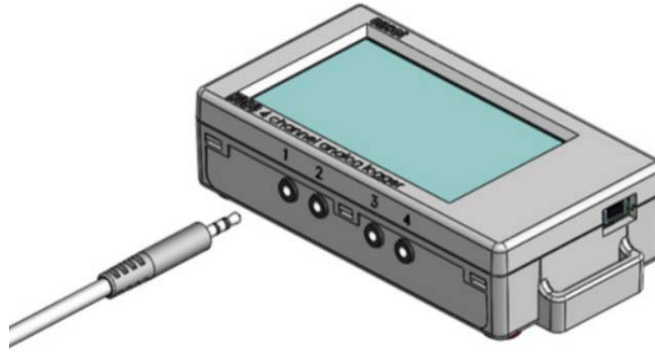

Figure A.4.10: Connecting the Onset HOB0 Split-core AC Current Transformer to the Onset HOB0 4-Channel Analog Logger.
3. Connect the Onset HOBOWare Split-Core Current Sensors to the Onset HOBOWare 4-channel Analog Logger by plugging in the CT's cables to their respective channels that were set on step 4 of section A.4.2 as shown on Figure A.4.10.